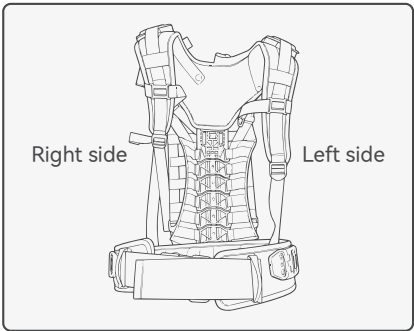

Figure 7 Upper Body of the Exoskeleton
(1) Prepare the upper body of the exoskeleton. As shown in Figure 7, the left hip joint should be installed on the left side, and the right hip joint on the right side.